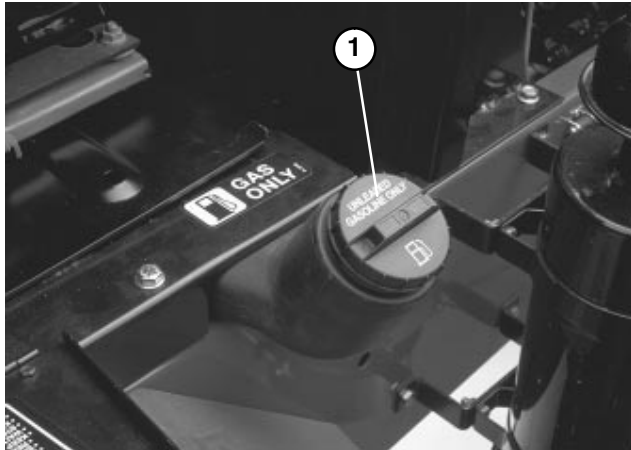

Figure 15
1. Clean area around fuel tank cap (Fig. 15).